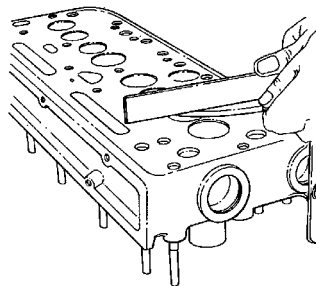

Figure 5-7. Gaging Valve Head Depth.
- (4) Grind valves and valve seats as necessary. Use grinding compound or grinding tools. Valves should always be refitted to their original seats (see Chapter 1 for engine specifications).
- (5) Ensure that valve head depth is correct relative to the cylinder head face (see Figure 5-7). Place a straight edge across the face of the cylinder head. Use a feeler gage to measure the valve head depth. If the depth exceeds the maximum limit, install a valve seat insert (see paragraphs 1-42 and 1-43).